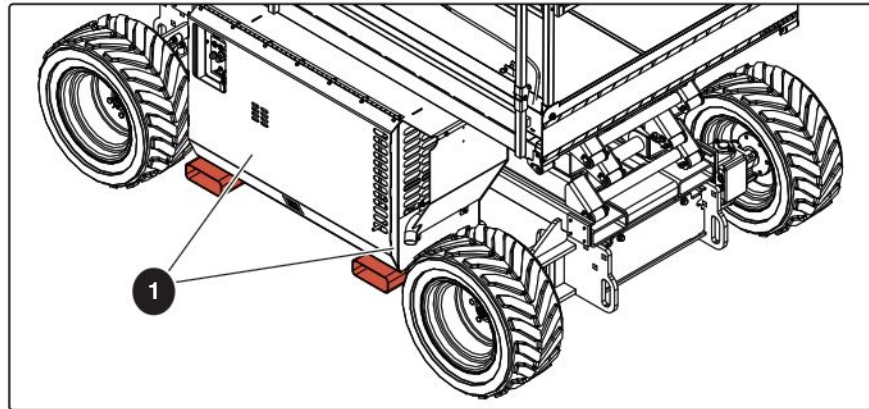

Figure 04 Forklift lift locations
- Lift the MEWP with the forklift forks in the forklift lift locations **1**. Refer to *Figure 04*.